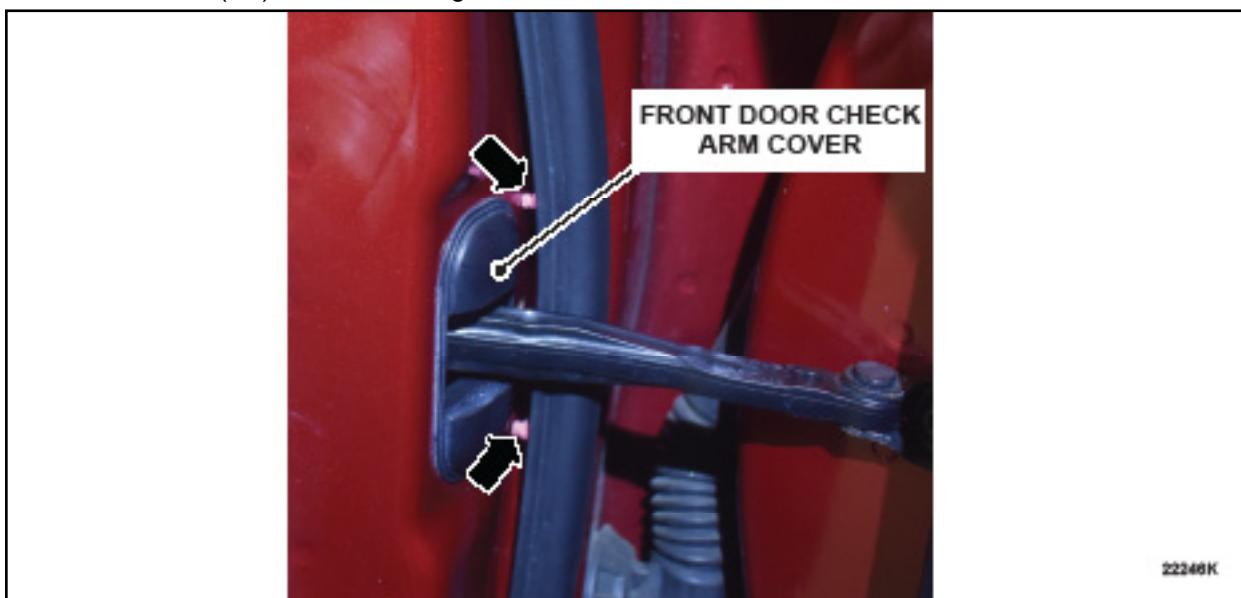

FIGURE 1
2. On both sides, open the front door and detach the two (2) closest push pins from the front door mounted weatherstrip as shown in Figure 1.